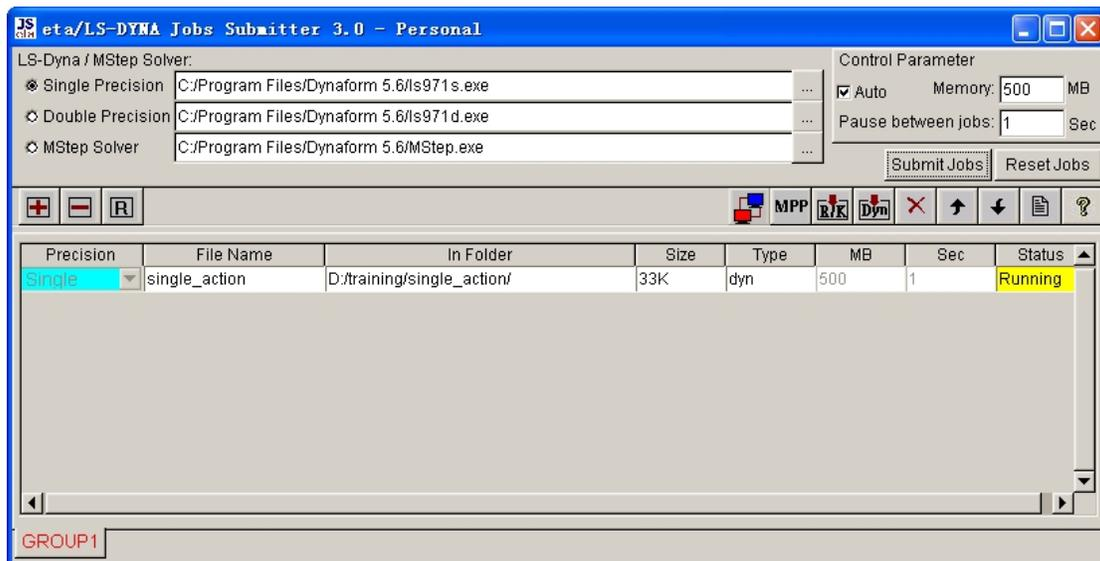

Figure 1.41 Submit job interface
3. Click **Submit** button from the SUBMIT JOB dialog box to display the Job Submitter interface illustrated in Figure 1.41.
4. As shown in Figure 1.41, the program automatically activates the LS-DYNA solver for running the stamping simulation. The LS-DYNA window illustrated in Figure 1.42 is displayed and the simulation is in progress.